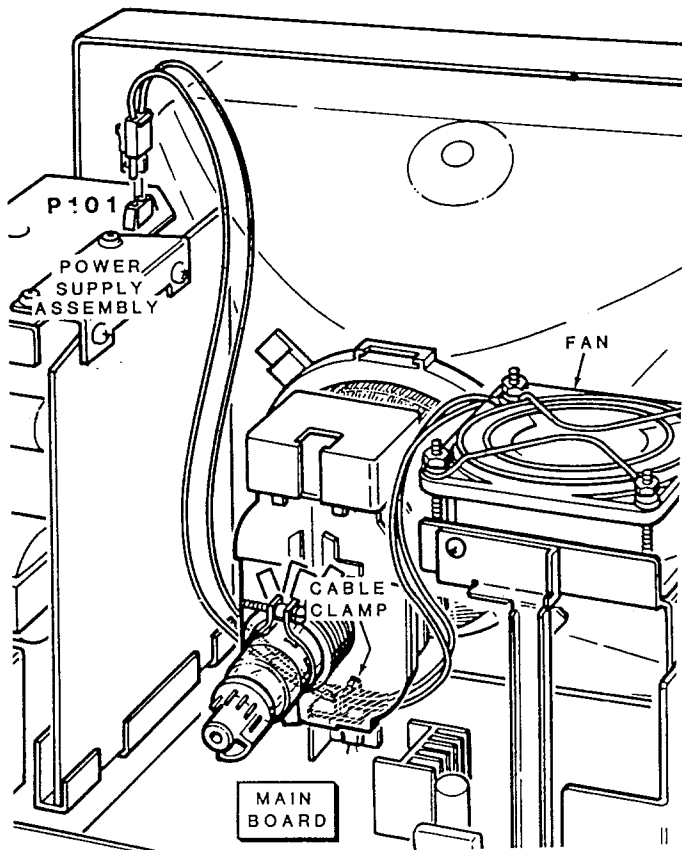

Figure 3-32. Fan Cable Connector and Ties
1. Refer to Figure 3-32 and disconnect fan cable connector P101 from the top of the power supply assembly.